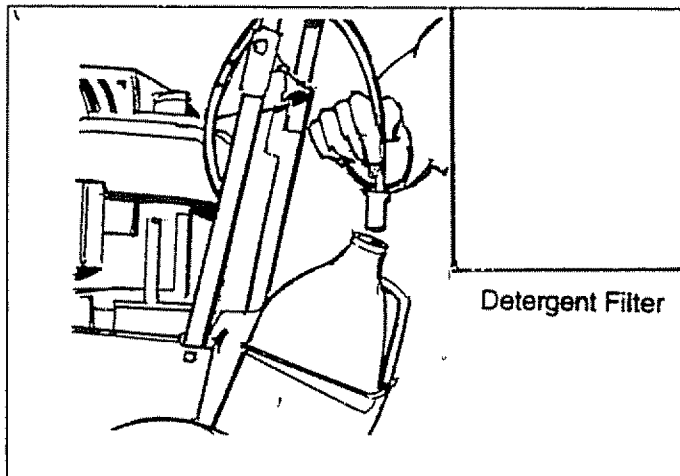

FIG. 18
- Place small filter of clear, detergent siphoning tube into detergent container (Fig. 18) placed in the wire basket.